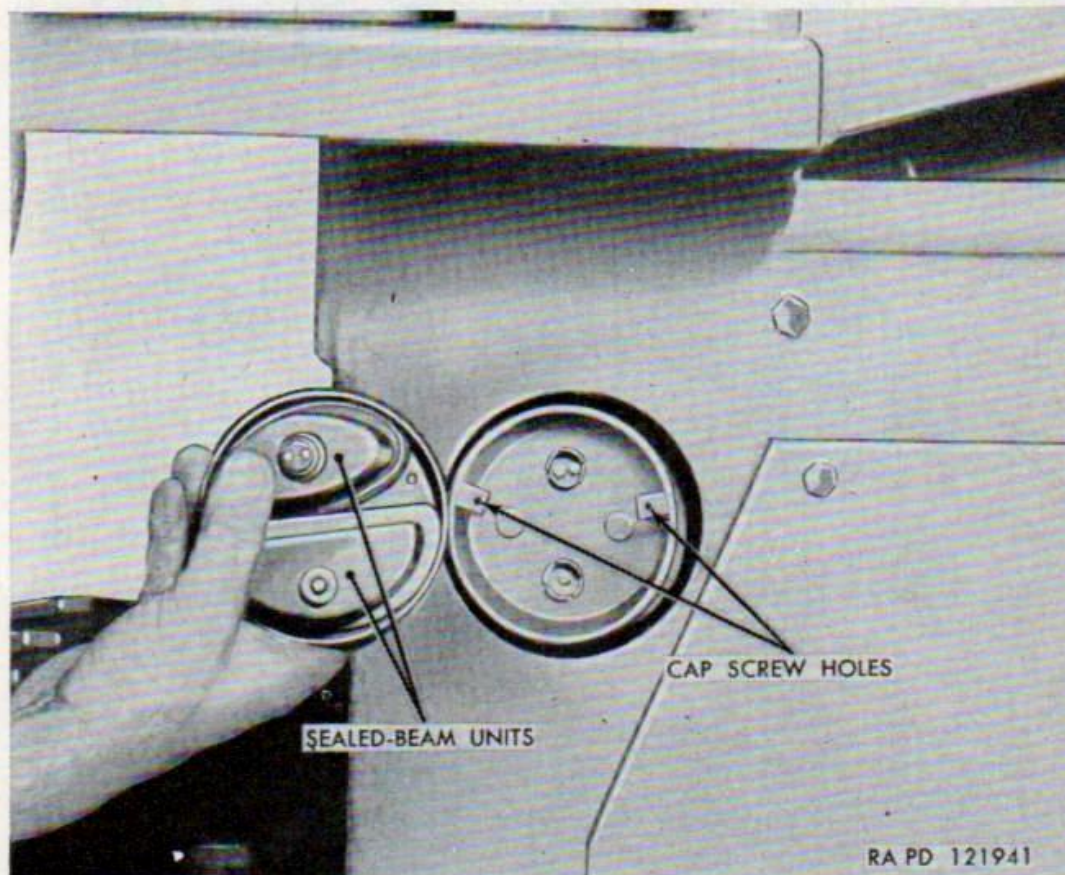

Figure 96. Stop and tail light assembly removal.
a. Replacement of Sealed-Beam Unit. To replace a sealed-beam unit, remove two cap screws and lift tail light cover (fig. 96). Remove defective sealed-beam unit and replace with a serviceable unit. Install light cover and the two cap screws.